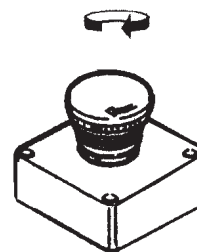

Figure 8-1
- The EMERGENCY STOP BUTTON unlocked (Figure 8-1)